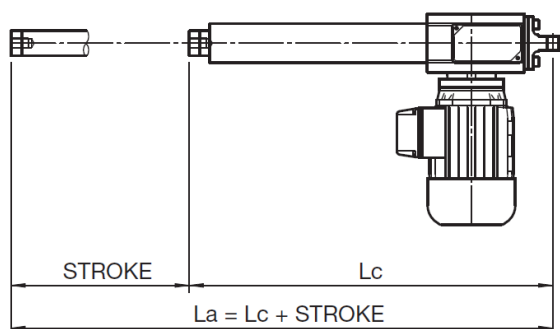

Figure 6.8 – Dimensions “Lc” and “La”
- ⚠ WARNING! DURING THIS OPERATION, DO NOT EXCEED THE L_c (RETRACTED ACTUATOR) AND L_a (EXTENDED ACTUATOR) POSITIONS, INDICATED IN THE CATALOGUE (see Fig. 6.8). IF NECESSARY, SCREW IN OR UNSCREW THE PUSH ROD AGAIN.
- Check if the extreme dimensions of the actuator “Lc” and “La” (see Fig. 6.8) are compatible with extreme positions of the plant component that has to be moved.